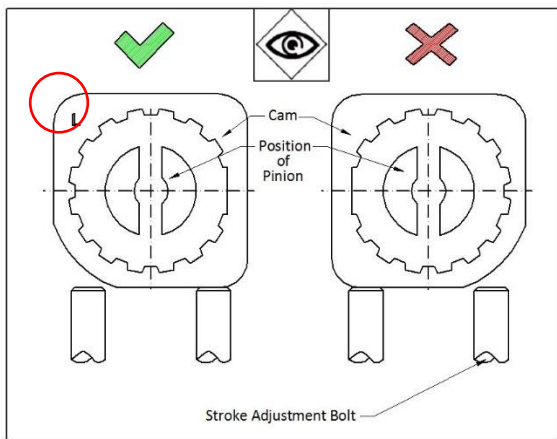

Fig No.24
- c) Cam (05) should be inserted by taking reference of identification mark "L" on the Cam surface, Cam inserted in such a way that Marking "L" should be on left hand side of Assembler. (Assembler is on stroke adjustment bolt side) (refer Fig no.24)